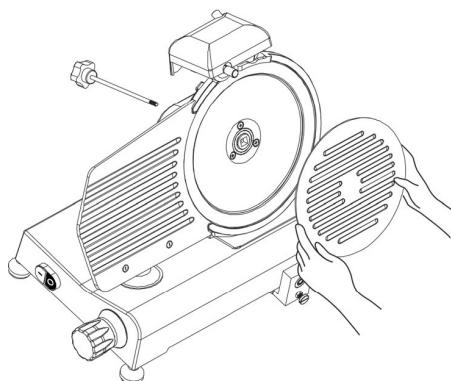

Fig. 4 – Blade guard removal
- Remove the blade guard cover by unscrewing the pin at the back of the appliance (see Fig. 4).